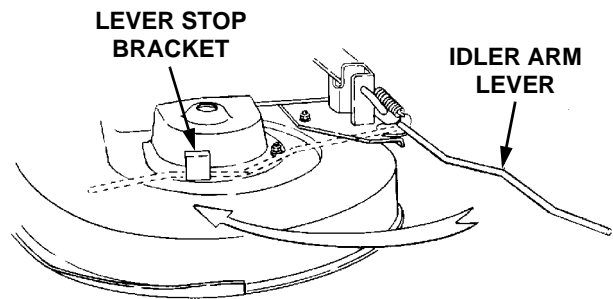

Figure 61
14. While holding the belt in position, rotate and engage the deck idler arm lever into its stop bracket to provide tension on the PTO belt (See Figure 61).